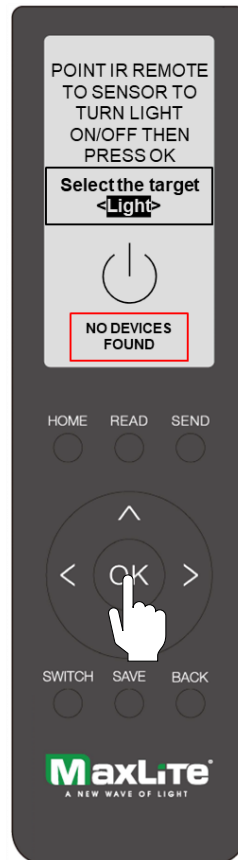

Fig 7C
4. If the command is successful, the screen will display a “**Success**” message. If it fails, the screen will display “**NO DEVICES FOUND**” (Fig. 7C & 7D).